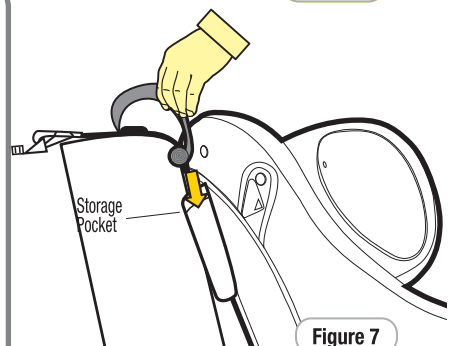

Figure 7
- Step 7:** Store any excess webbing, from the top tether strap, in the storage pocket provided on the restraint (refer to Figure 7).